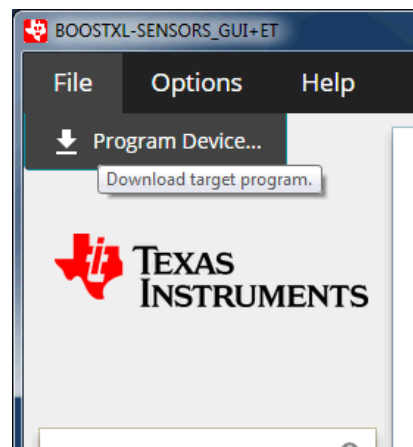

Figure 5. Programming Sensor Software With the GUI
4. Click "File" and click "Program Device". The firmware should download to the LaunchPad development kit (see Figure 5).